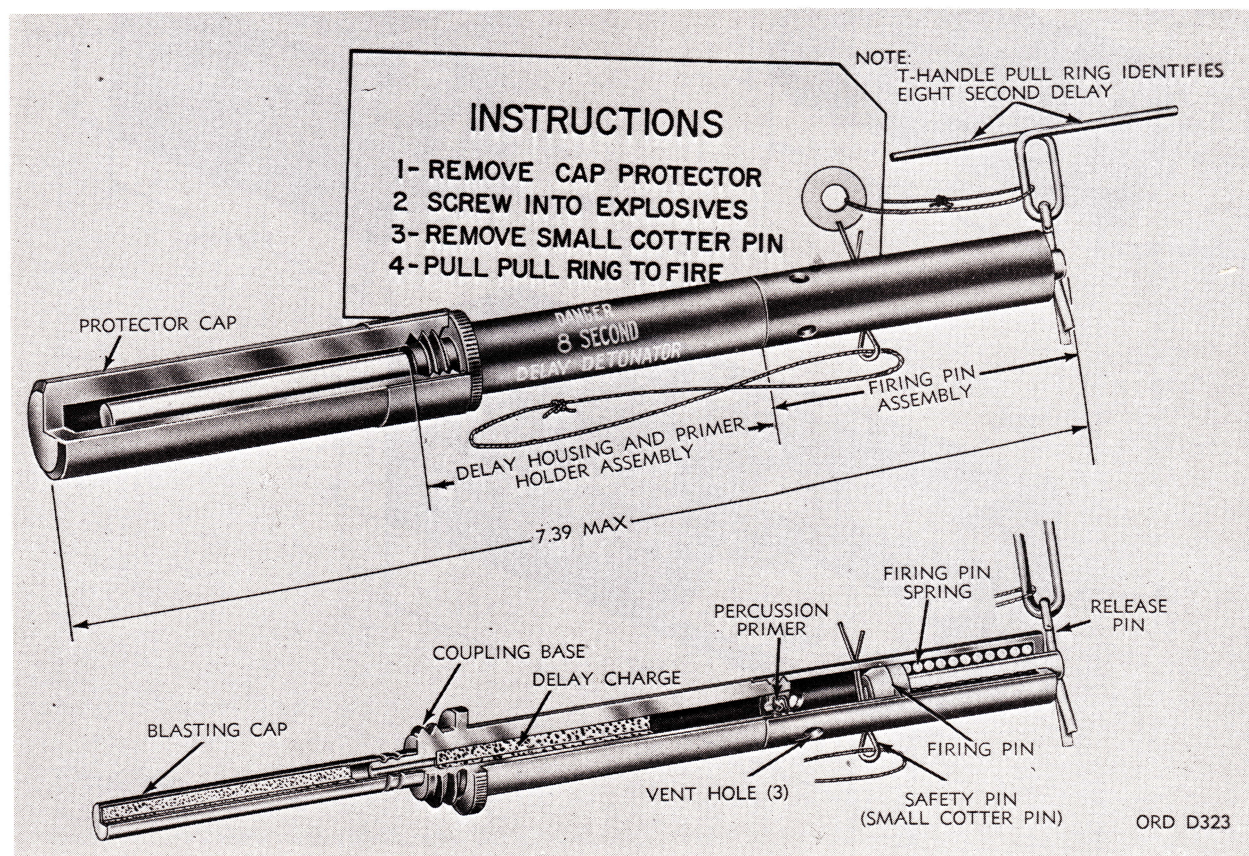

Figure 4-2. Eight-second delay detonator M2.
c. Delay Detonators. Delay detonators are functionally similar to detonating hand grenade fuzes except for different time delays. Delay detonators are available with either 8-second (M2 (fig. 4-2)), or 15-second (M1) delays. These differences in delay times must be taken into account when delay detonators are used in lieu of detonating hand grenade fuzes. When the safety pin and release pin are withdrawn, the spring firing pin strikes a percussion